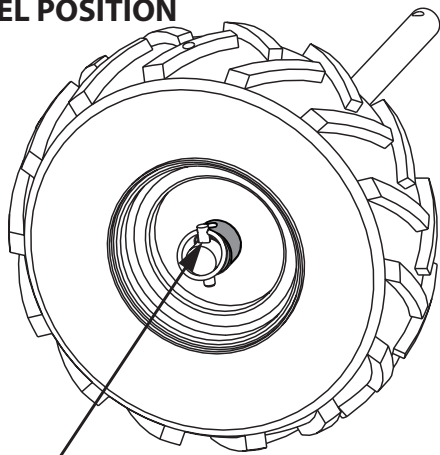

FIGURE 10
1. Remove lock pin. Slide wheel inward toward machine. **SEE FIGURE 10 (Next Page)**